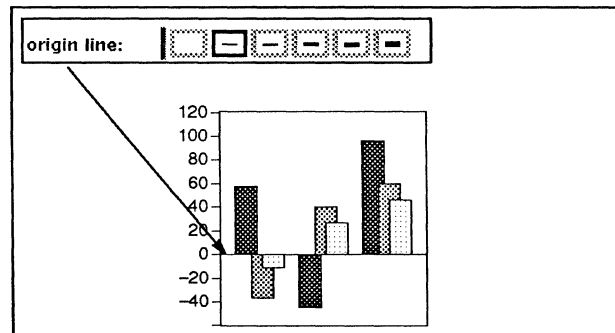

Figure 28-32. Origin line
**Origin line.** This line has meaning only if some of the data are negative. The *origin line* is at 0. The icons represent the possible thicknesses of the line (Figure 28-32).